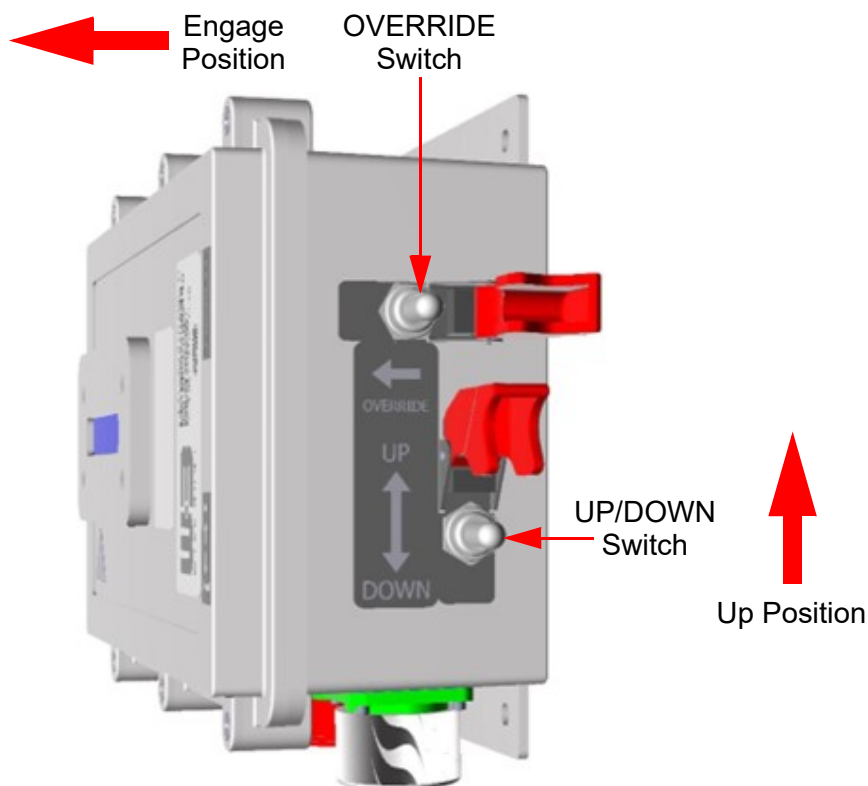

Figure 6-2 OVERRIDE Switch Engage Position and UP/DOWN Switch Up Position
2. Hold the OVERRIDE Switch in the engage position and hold the UP/DOWN Switch in the up position (Figure 6-2). As long as both switches are held, the mast will extend and the display will show the appropriate intermediate extension height. Be sure to stay clear of the collars during operation as they create a pinch point hazard.